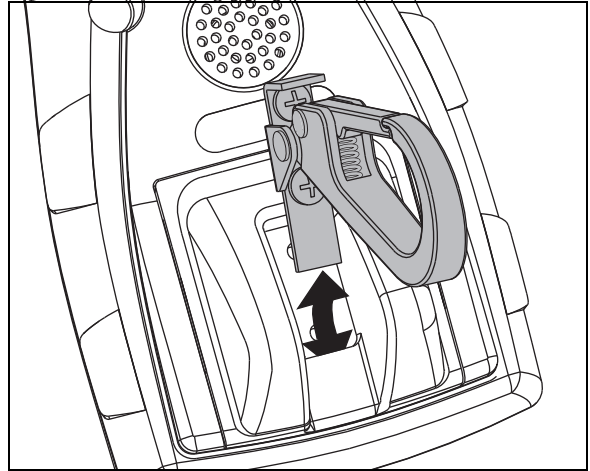

Figure 3. How to Remove and Install the Belt Clip
Refer to Figure 3.
- 3 Put the end of the plate into the slot as shown in Figure 3 before you align the screws with the holes in the test set.